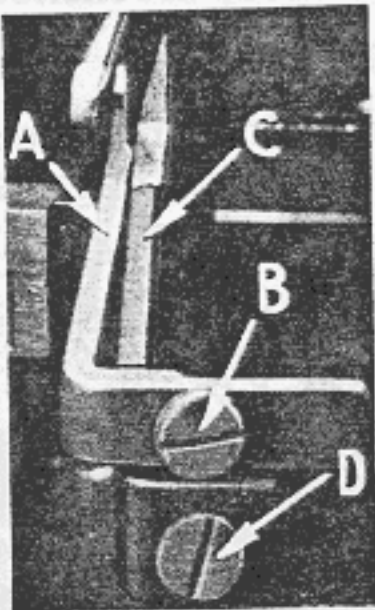

Fig. 5
Set rear needle guard (A, Fig. 5) as high as possible, without interfering with either lower looper or spreader or movement of lower knife holder; but still in position to deflect needle forward .002 - .004 inch. Screw (B) is used to set rear needle guard. Make sure there is no interference between rear needle guard and lower looper or spreader.
Assemble front needle guard (C, Fig. 5). When lower looper is springing needle off back guard, set front needle guard as close as possible to needle without touching. Screw (D) is used to adjust and set front needle guard. After this setting, make sure there is no interference between needle guard and main feed dog.